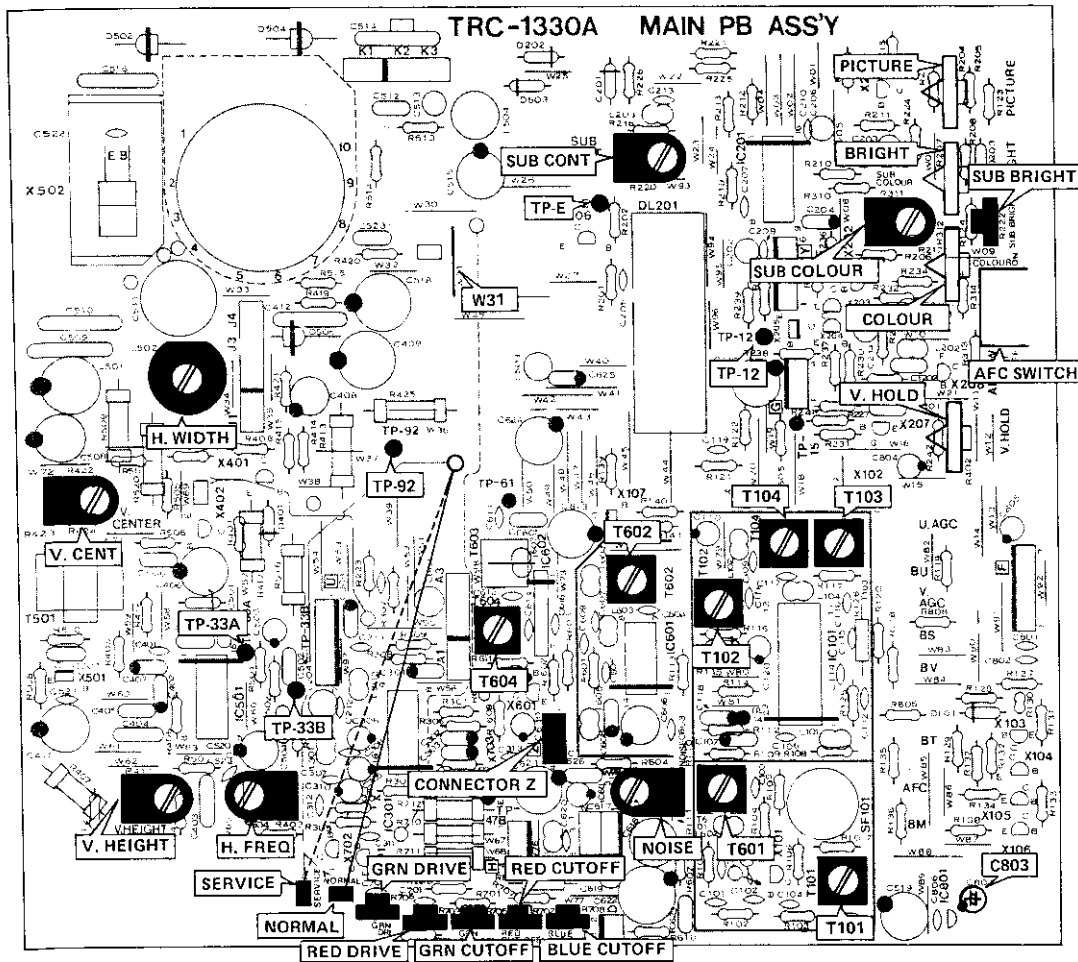

Fig. 6-3
6. Stop operation of the horizontal output circuit by disconnecting the W31 (jumper wire) shown in Fig. 6-3 (to avoid voltage supply to the collector of horizontal output transistor X502).